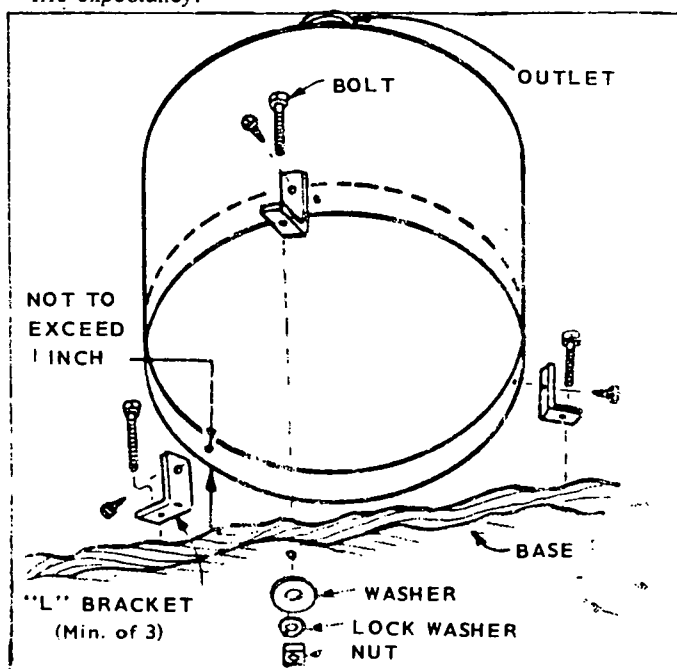

FIGURE 9. INSTALLATION OF AQUALIFT MUFFLER
1. Secure the muffler to the predetermined location (within ten-feet of the engine exhaust outlet) using "L" brackets (Fig. 9) or other suitable mounting devices such as wood blocks or metal straps. Flexible mounts may be used if so desired.